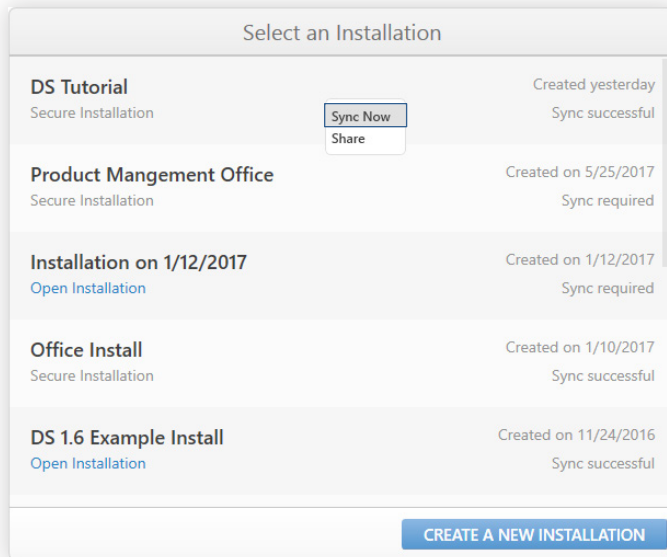

fig. 17
- **Sync individually from Existing Installations:** To sync one installation, locate it in the Existing Installations menu, right-click, and select **Sync Now**. (See fig. 17.)